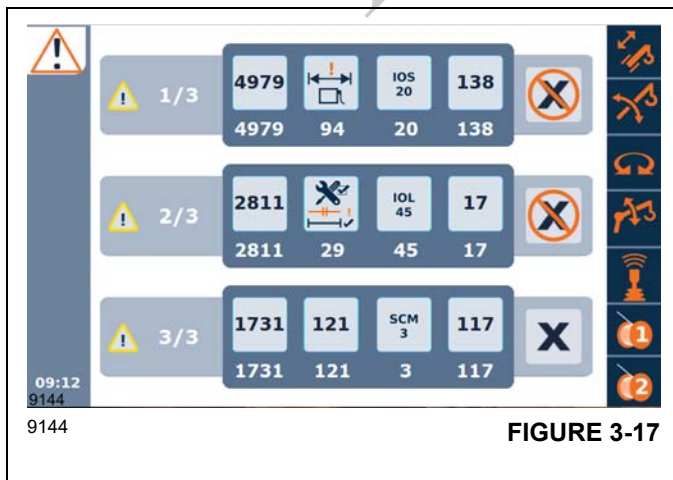
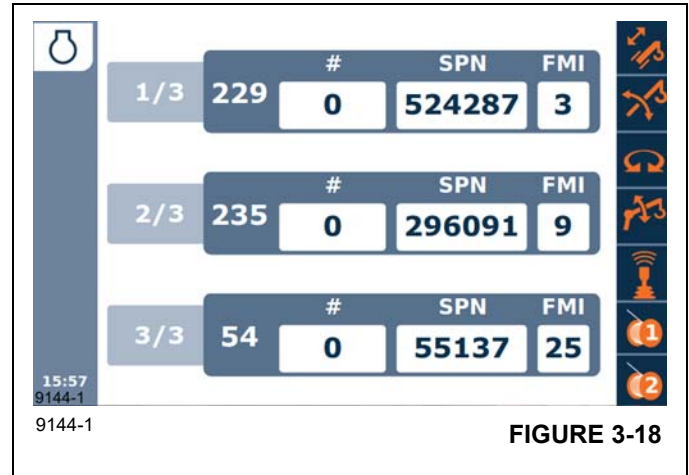

FIGURE 3-17
FIGURE 3-18
1. Open the fault list screen (Figure 3-17) or the engine faults screen (Figure 3-18) and highlight the fault you're interested in getting more information about.